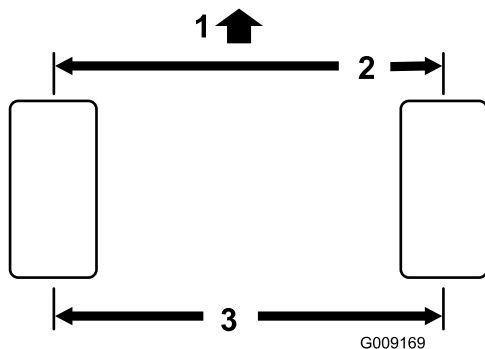

Figure 49
5. Measure the distance between the front tires at axle height at both the front and rear of the tires (Figure 49).